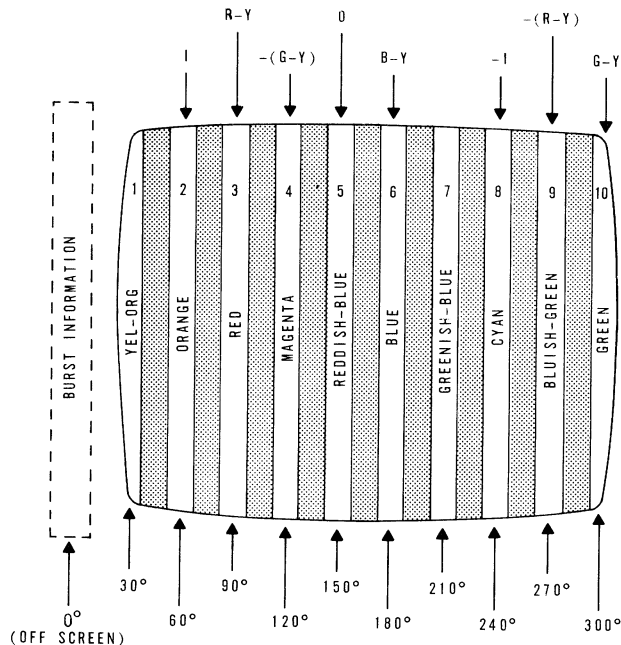

Figure 4-1. Gated Rainbow
- b. Observe the third color bar (red) from the left (see Figure 4-1). Adjustment of receiver tint control to one of its extreme positions should cause the second bar to become red. Adjustment to the other extreme should cause the fourth bar to become red. If these changes cannot be obtained, refer to the manufacturer's procedure for AFPC adjustment.
- Select the 10 bar Gated Rainbow pattern. With the aid of the 4.5 MHz Sound Carrier adjust the fine tuning of the receiver for best picture. Adjust the Color control for pleasing color and the Tint control to obtain the pattern shown in Figure 4-1.